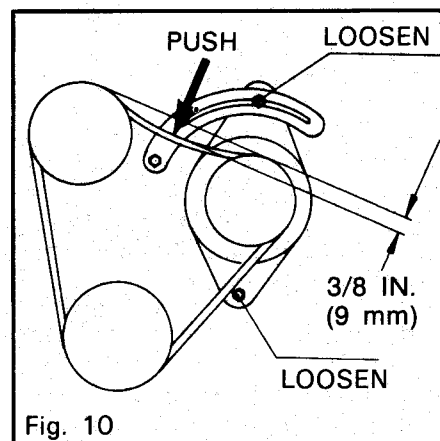

Fig. 10
## ② Fan belt tension (Fig. 10)